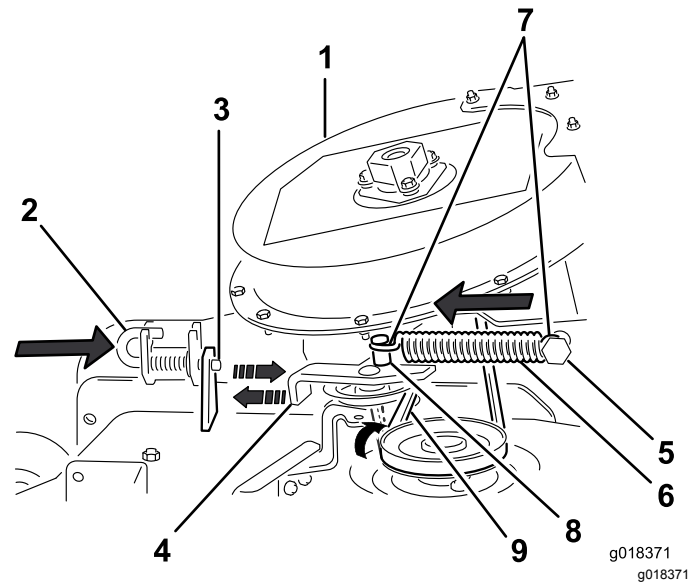

Figure 44
2. Temporarily route the belt beneath the idler pulley (Figure 44).
3. Move the idler-pivot bracket toward the fixed spring post and install the spring by aligning the spring hook onto the idler-spring post (Figure 44).
4. Pull the spring-loaded idler pulley away from the fixed spring post, and route the belt around the deck pulley (Figure 44).